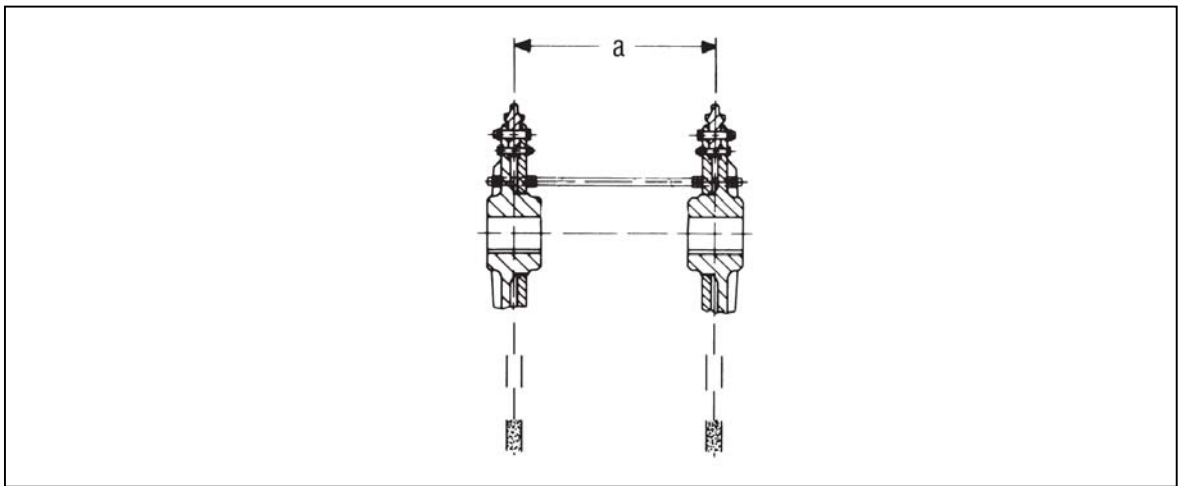

Fig. 2
2. Mount the wheels with a separation of distance "a" with 2 spacing screws (fig. 2). (There are corresponding boreholes in the wheels. The spacing screws are not supplied by RUD.)